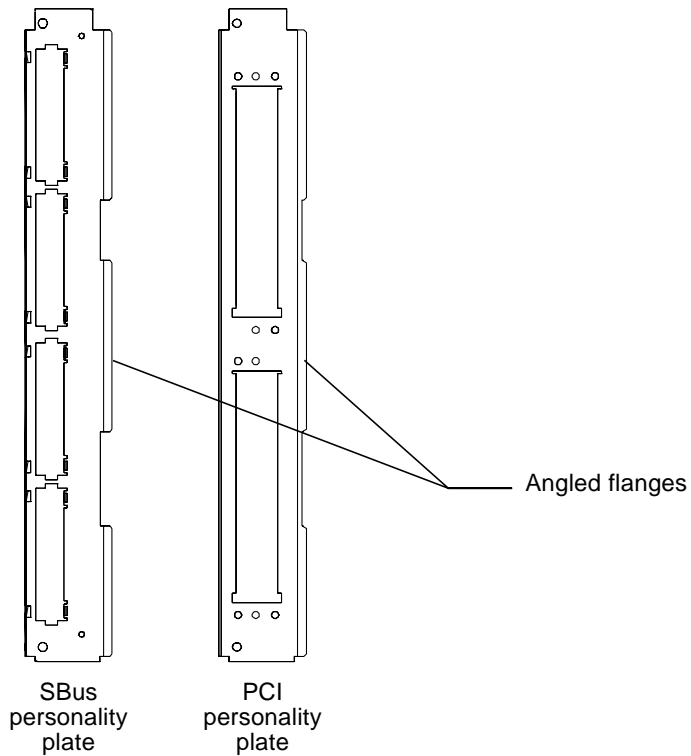

FIGURE 5 Personality Plate Identification
1. **Confirm that the type of personality plate that you are installing is correct for your application. See FIGURE 5.**